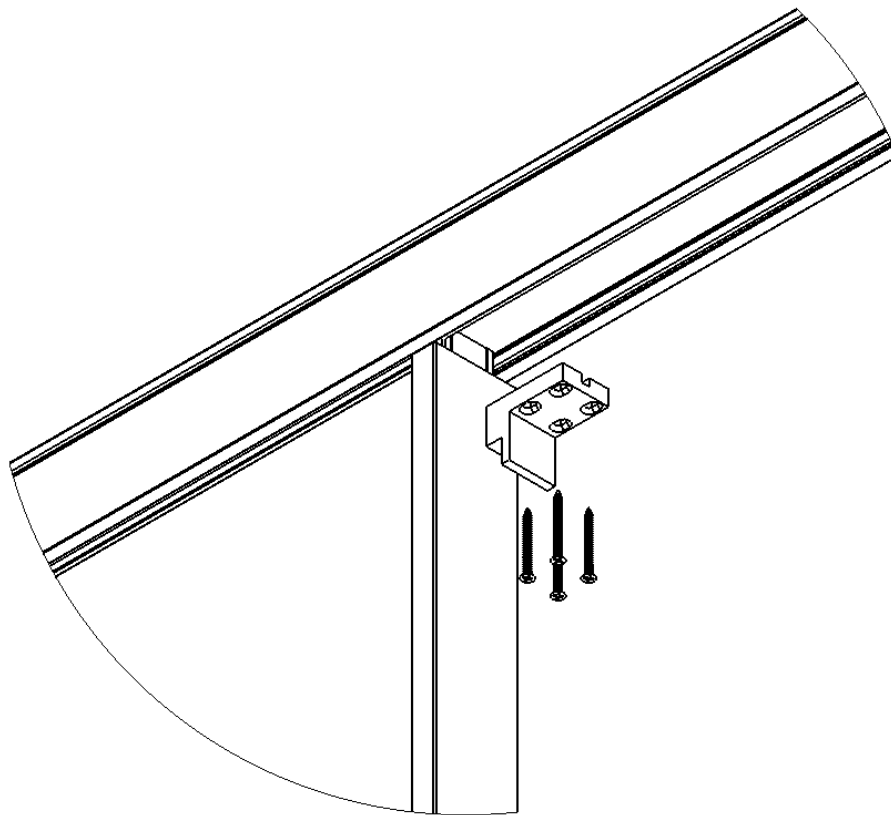

Figure 17
Anchor the head of the fixed panel in location using the anchor clip and (4) #10 x 2” screws. See **Figure 17**.